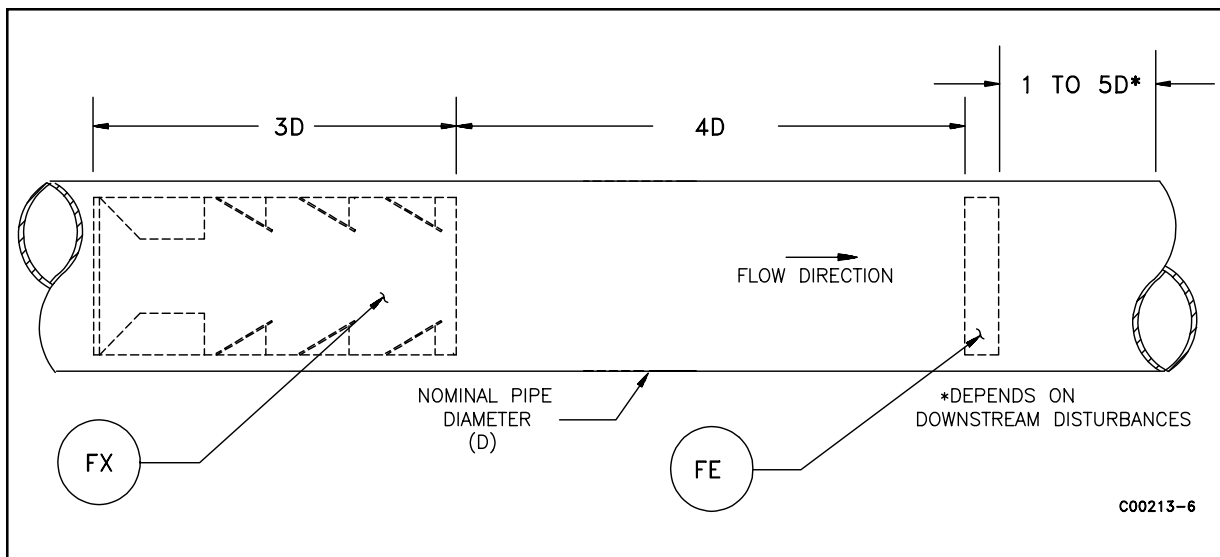

Figure 2-1. Orientation of VIS in Process Pipe or Duct
- The outlet of the VIS must be located 4 nominal pipe diameters upstream from the customer meter. The process pipe must continue straight for at least 1 pipe diameter past the customer meter. See Figure 2-1.